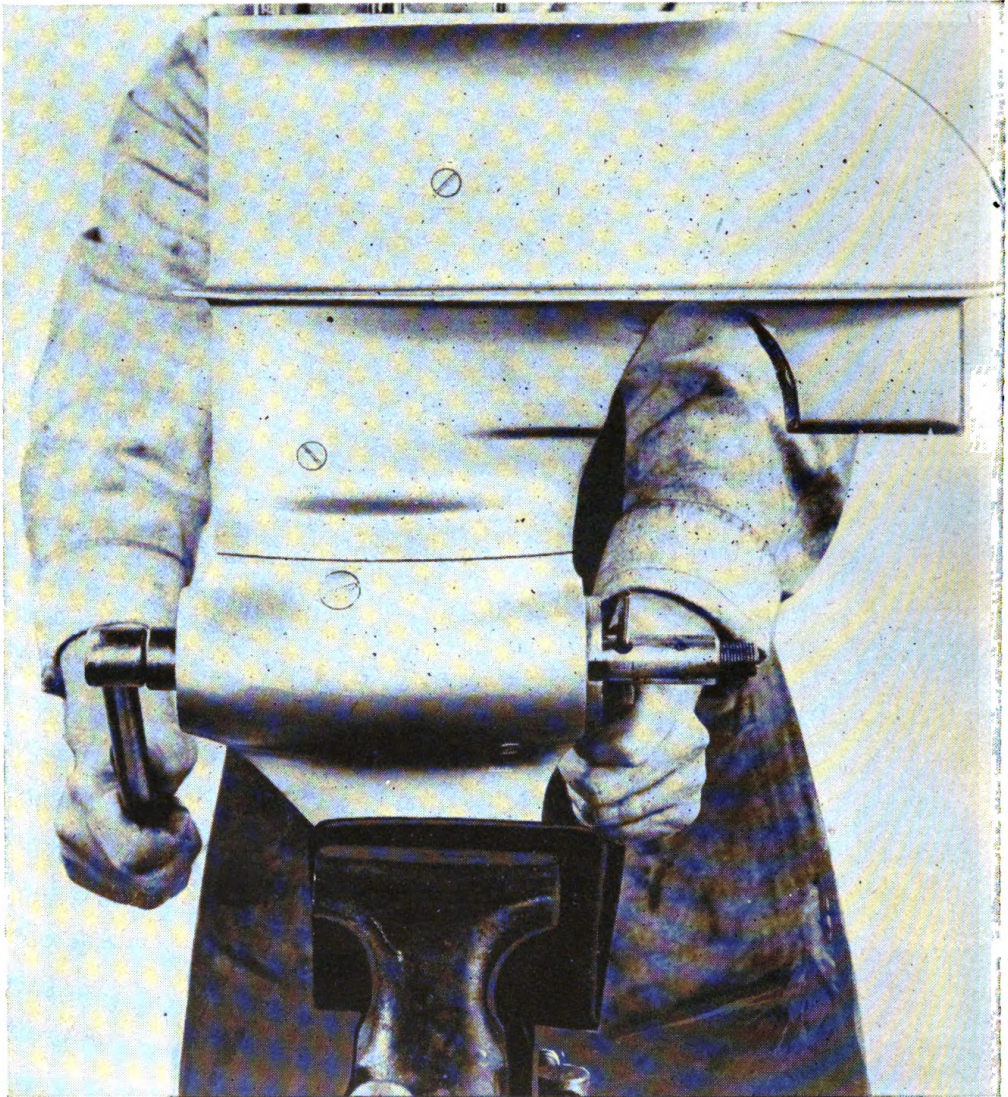

Figure 116. Gearcase assembly held in vice when tightening propeller-shaft nut.
(7) Insert pinion shaft, bearing, and gear assembly in upper section of gear case. Install gear-case gasket. Attach upper gear-case section to gear case by sliding over long studs. (See fig. 116.) Install spacers on long studs; attach nuts and draw down tightly.
(8) Place gear-case assembly in vice (fig. 116) to tighten propeller-shaft nut. Insert punch through propeller-pin hole to prevent turning when tightening nut as illustrated. When nut has been drawn up sufficiently, lock in place by bending at least three lugs of the lock washer up and against side of nut.
(9) Install bearing retainer. Note slot provided for pin in gear case, both of which must line up. Screw bearing lock nut in gear case to prepare for adjusting gears.